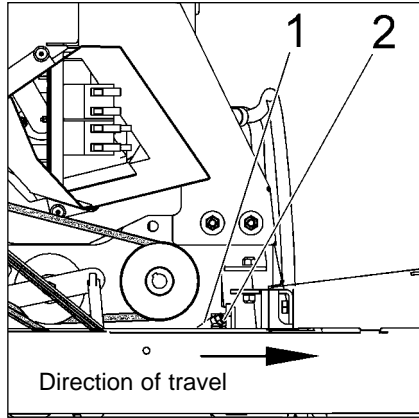

Fig.24
- Remove drain hose (Fig. 24/1) from holding clamp (Fig. 24/2) and lead it downwards through the vehicle frame.
- Close drain hose (Fig. 24/1) by plug and protect with clamp.
- Fasten drain hose (Fig. 24/1) at holding clamp.